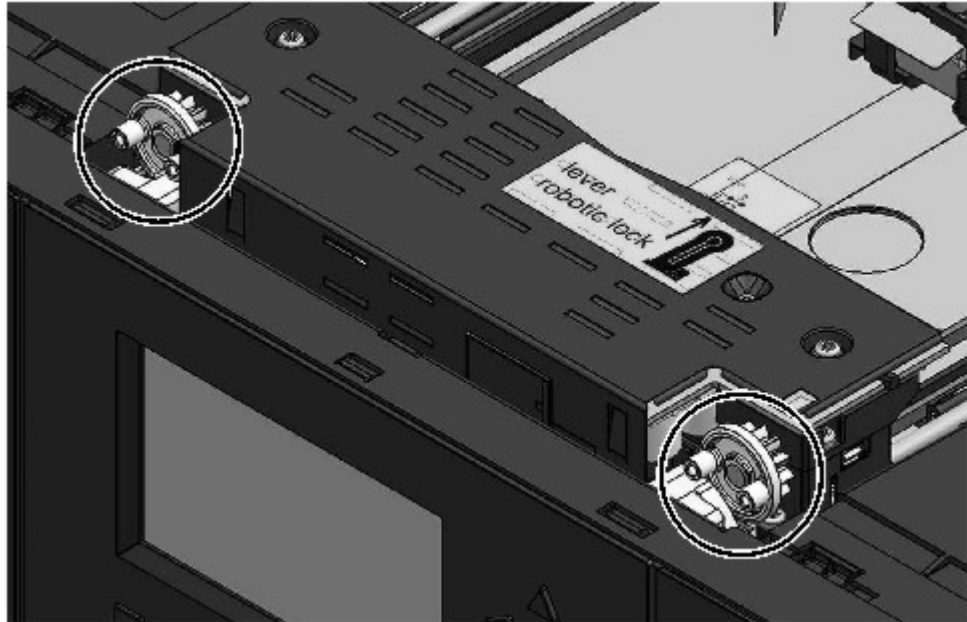

Figure 76. Pins are aligned horizontally
1. Each corner of the accessor has a gear with two protruding pins. Rotate one of the gears on the accessor so that the two pins are aligned horizontally. See Figure 76 on page 157